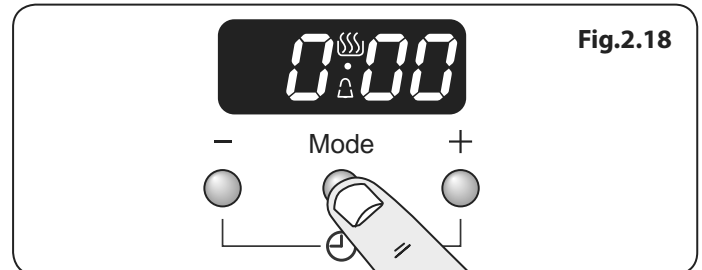
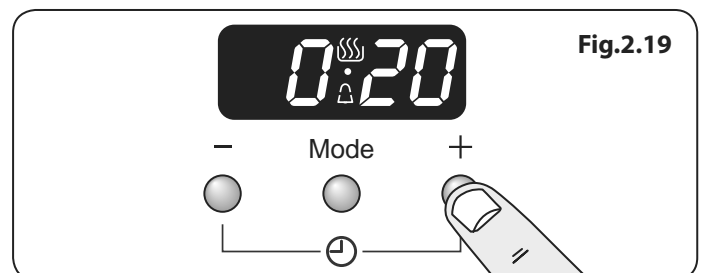

Fig.2.18
Fig.2.19
1. Press the mode [Mode] button once (Fig.2.18). The bell symbol [🔔] will flash on the display. Select the desired countdown from 00:01h to 23:59h using the [+] or [-] buttons (Fig.2.19). The countdown will automatically begin and the [🔔] symbol will show in the display.